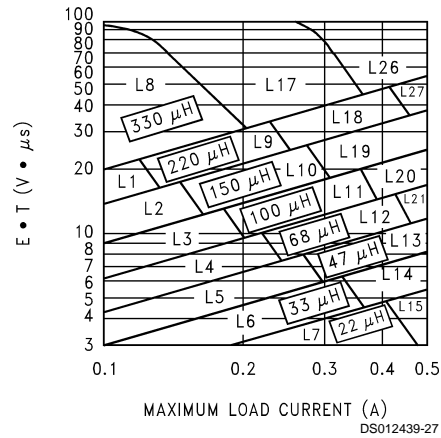

FIGURE 7. LM2594/LM2594HV-ADJ
B. Use the $E \cdot T$ value from the previous formula and match it with the $E \cdot T$ number on the vertical axis of the Inductor Value Selection Guide shown in *Figure 7*.
D. From the inductor value selection guide shown in *Figure 7*, the inductance region intersected by the $35 (V \cdot \mu s)$ horizontal line and the $0.5A$ vertical line is $150\text{ }\mu H$, and the inductor code is L19.